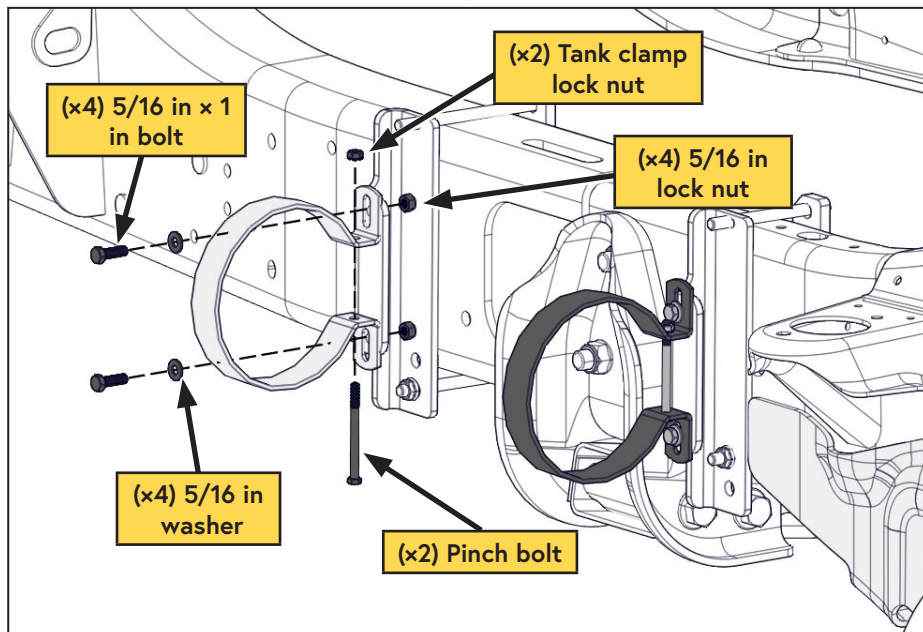

Figure 49 — Install AOST
- ☐ Remove the tank clamp pinch bolts (Figure 49).
Install the tank onto the tank mounts (Figure 49)*: